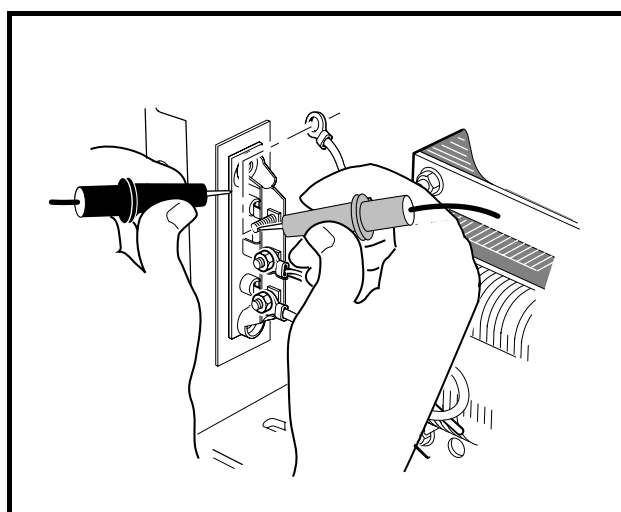

Figure 14-13 Diode Test-Reverse Probe Position
4. Reverse the tester leads and check each diode again and note the reading (**Figure 14-13, Page 14-15**). A diode is designed to conduct current in one direction only; if a diode conducts current (shows continuity) in both directions, the complete heat sink assembly with diodes must be replaced. If a diode does not conduct current (does not show continuity) in either direction, the entire heat sink assembly must be replaced.